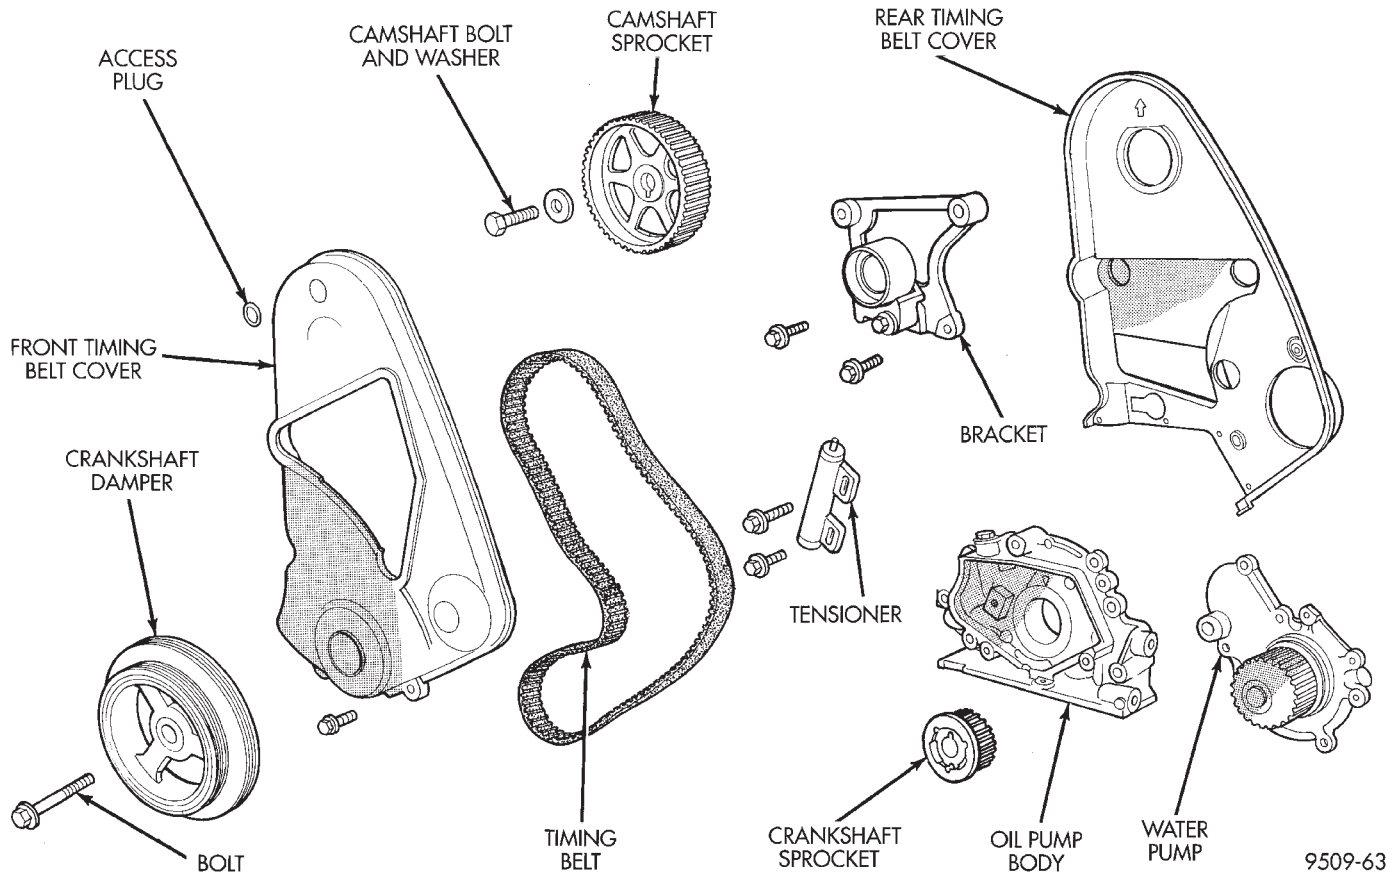

Fig. 39 Timing Belt System—With Hydraulic Tensioner
- Remove the access plug from the outer timing belt cover (Fig. 39).